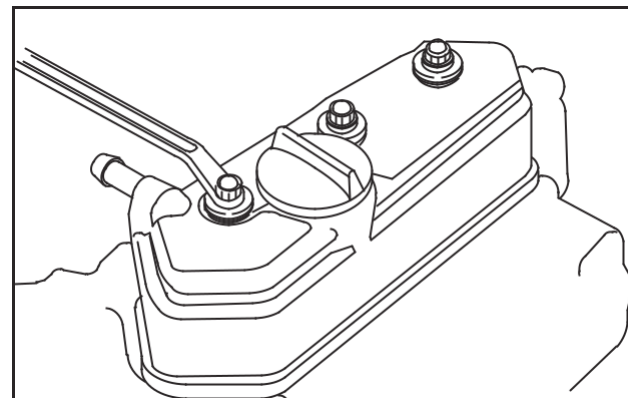

Fig. 44 – Install Valve Cover
2. Install valve cover with new rubber seal, Fig. 44.